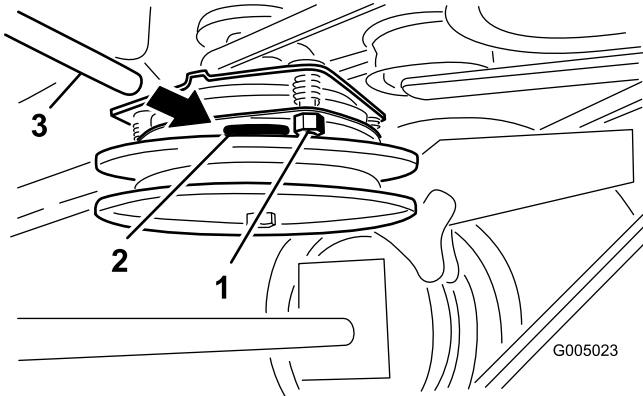

Figure 46
2. Tighten the locknuts until there is a slight binding on the feeler gauge but it can be moved easily within the air gap (Figure 46).